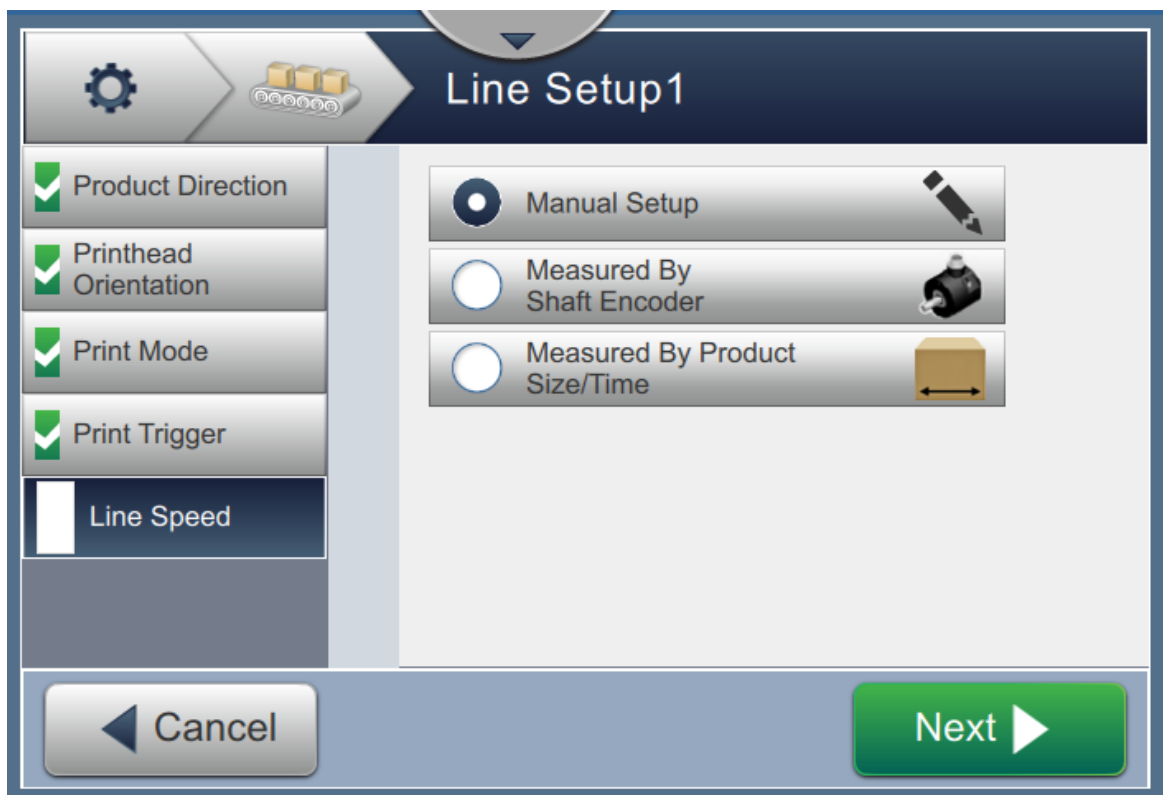

Figure 6-33: Line Setup - Line Speed
1. Touch the *Line Speed* in the Line Setup Setting screen, select the required line speed as shown in Figure 6-33. Touch the  button to set the line speed.
1. Select the *Manual Setup* as shown in Figure 6-33. Touch the  button to enter the required settings.
1. Select the *Measured by Shaft Encoder* as shown in Figure 6-33. Touch the  button to enter the required settings.
1. Touch the *Measured by Product size/time* as shown in Figure 6-33. Touch the  button to enter the required settings.